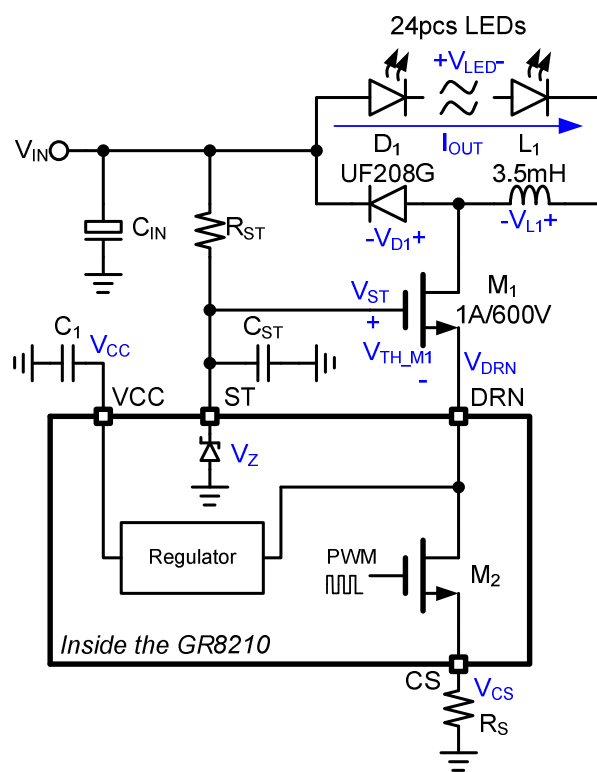
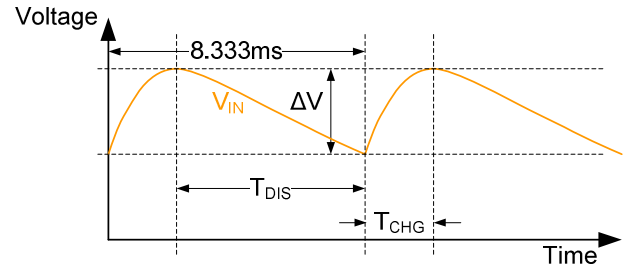

Figure-1 The brief schematic to explain the system operation.
Figure-6 The waveform of input voltage in the  $C_{IN}$ .
\* Refer to the Figure-1.
GR8210 is a cascade topology constant current PWM converter for high brightness LED driving. In the Figure-1, after the  $V_{IN}$  ramps up, the  $V_{ST}$  also ramps up to the target with a delay time. This voltage turns on the  $M_1$  when its level greater than the  $V_{TH\_M1}$ , then the  $V_{CC}$  was created.  $M_2$  was turned on in the on period of the first cycle. The current flows through LEDs,  $L_1$ ,  $M_1$ ,  $M_2$ ,  $R_S$ , and back to  $C_{IN}$  finally. In the end of this period, the  $M_2$  might be to turn off when the  $V_{CS}$  reached 0.25V. A fixed off time was followed as the off period of the first cycle. During the off period, the current flows through LEDs,  $L_1$  and  $D_1$ . A new cycle will start when the fixed off time finish.
An internal regulator in the GR8210 could generate a 5V voltage source to supply the operating current for control circuit. The input voltage of the internal regulator is the  $V_{DRN}$ .  $V_{CC}$  regulated in the  $M_2$  off period due to the  $V_{DRN}$  is approximately zero volt in the  $M_2$  on period. Therefore, a capacitor, shown in the Figure-1, located to the  $V_{CC}$  to hold on the  $V_{CC}$  during the  $M_2$  on period is necessary. The ceramic type of capacitor is suitable for  $V_{CC}$  retaining, a  $1\mu F$  capacitor could supply the operating current of the control circuit for tens microsecond with a very good voltage regulation.
The different height of  $V_{CS}$  means the different  $I_{OUT}$  that shown in the Figure-1. The line voltage compensation function was applied in the GR8210 to improve the output current regulation. The  $V_{P1}$  to  $V_{P3}$  in the Figure-4 illustrates the compensation results by the line voltage compensation.
In the Figure-1, the  $C_{IN}$  retained the  $V_{IN}$  with ac part, the waveform was shown as Figure-6. Before the input capacitance decision, the users must define the input voltage ripple in the system. A useful rule
The (5) to (7) could be used to estimate the capacitance of  $C_{IN}$  that shown in the Figure-1.
The external NMOSFET in the Figure-1,  $M_1$ , was connected to the DRN of the GR8210. Most of the input voltage was across the drain and source terminals of  $M_1$ . The specifications of a suitable device are, the continuous current range of 1A to 2A, the maximum drain to source voltage is 600V and the maximum gate to source voltage is 20V. To choose an external NMOSFET with better specifications than above will not improve the efficiency significantly.
The users could apply a digital duty modulation signal into DIM pin to use the PWM dimming. The  $I_{OUT}$ , shown in the Figure-1, would regulate in the high state of PWM signal and stop regulating in the low state of PWM signal.
Figure-7 The waveforms of  $V_{IN}$ ,  $I_{OUT}$  and  $I_{OUT\_AVG}$  that shown in Figure-1. These waveforms illustrate the switching dimming procedure and behavior.